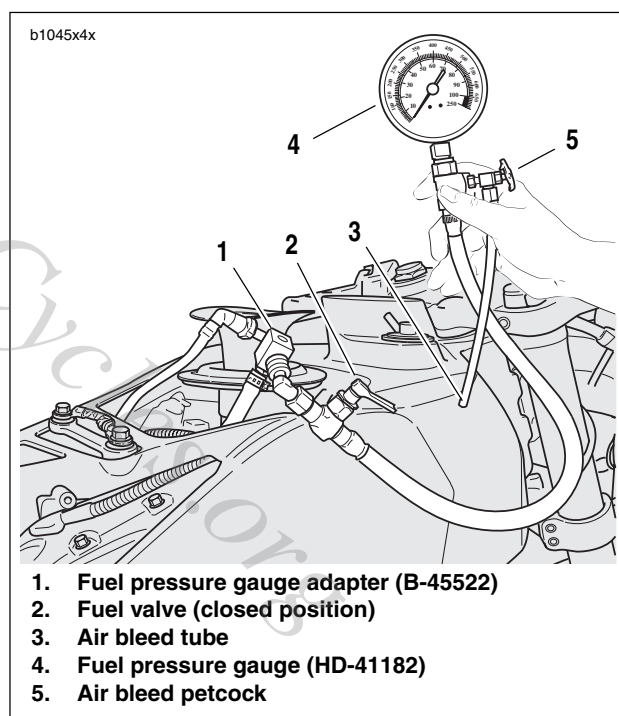

Figure 4-26. Fuel Pressure Gauge (Part No. HD-41182)
See Figure 4-26. Verify that fuel valve (2) and air bleed petcock (5) on the gauge are closed.
6. Attach FUEL PRESSURE GAUGE (Part No. HD-41182) (4) to fuel pressure gauge adapter (1).
8. See Figure 4-26. Pressurize the fuel system.
- b. Open fuel valve (2) on fuel pressure gauge to allow fuel to flow down the gauge hose.
- c. Position the air bleed tube (3) into proper container.
- d. Open and close the air bleed petcock (5) to purge the fuel pressure gauge and hose of air. Repeat this step several times until only solid fuel (without bubbles) flows from the air bleed tube.
10. See Figure 4-26. Turn engine off. Detach pressure gauge (4) from adapter (1).
- a. Open the air bleed petcock (5) to relieve fuel system pressure and purge the pressure gauge of gasoline.